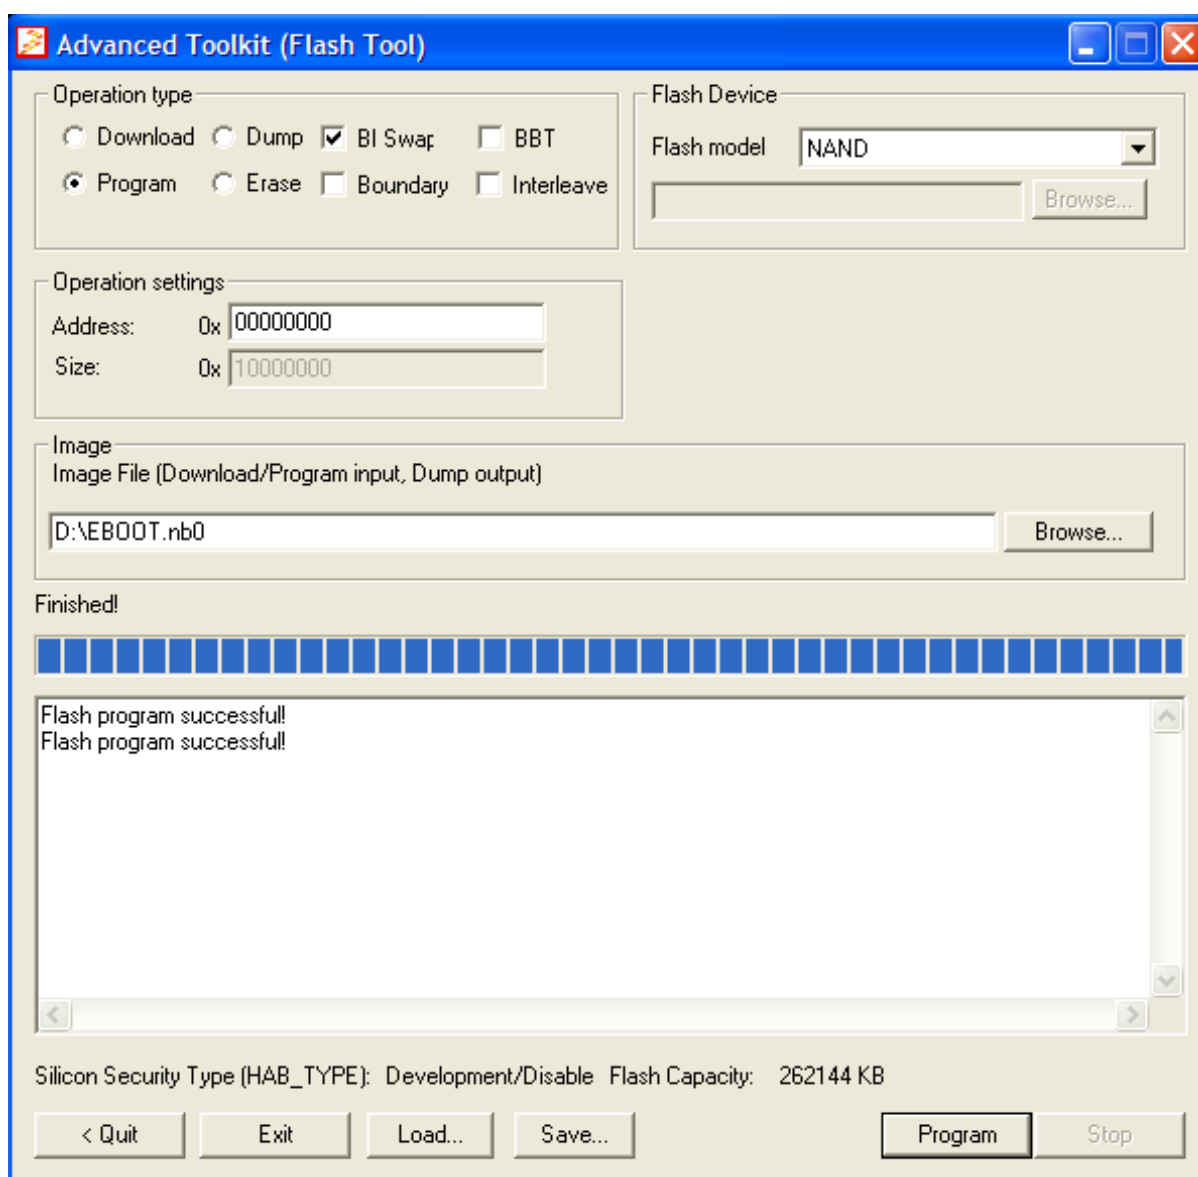

Figure 5-6 XLDR.nb0 Programming
2. Click **Program** and wait until flashing is successful, as seen in Figure 5-6.